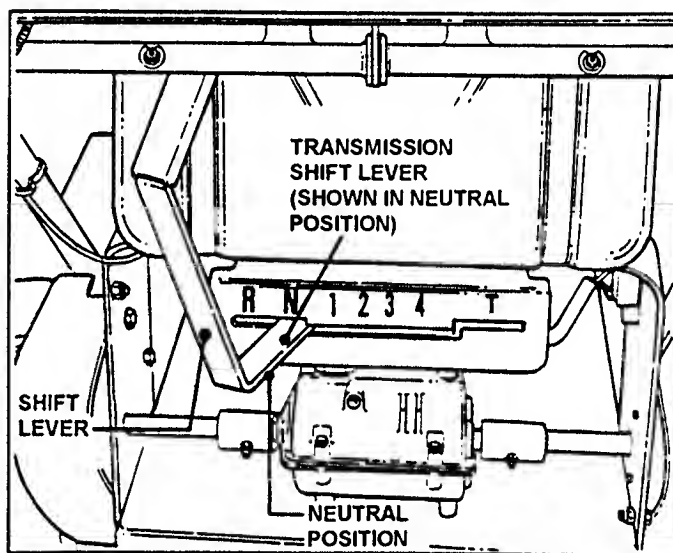

FIGURE 6
3. Place Transmission Shift Lever in **NEUTRAL(N)** position. See Figure 6.